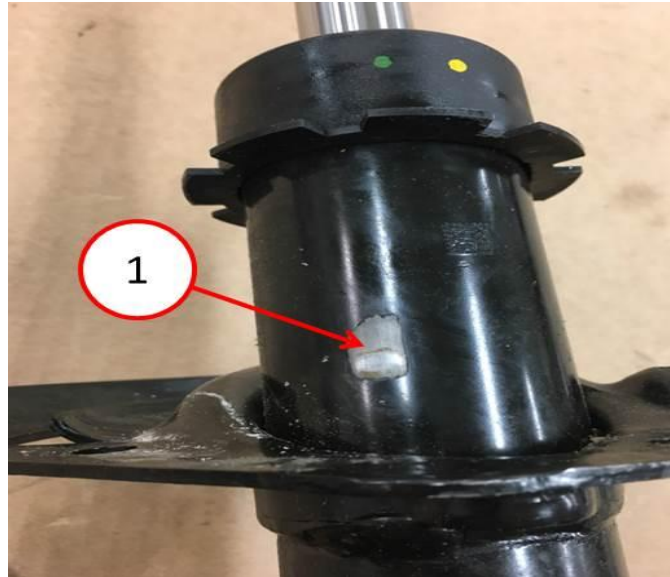

Fig. 4 Witness Mark
4. Is the spring contacting the strut tube or is there presence of a “witness mark” as seen in (Fig. 4)?